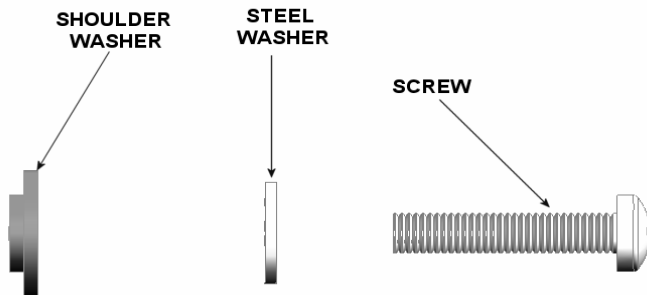

Figure 4. Attachment Parts
2. Secure the left and right factory assembled interface bracket assemblies (20 and 30) to the display. Select the mounting hardware that fits your application. Read the following list and refer to Figure 4 and Figure 5.
- Use M6 screws (80 or 90) or M8 screws (50, 60, or 70), steel washers (170), and shoulder washers (210).
- Or, use M4 screws (130, 140, or 150) or M5 screws (100, 110, or 120) steel washers (160), and shoulder washers (200).